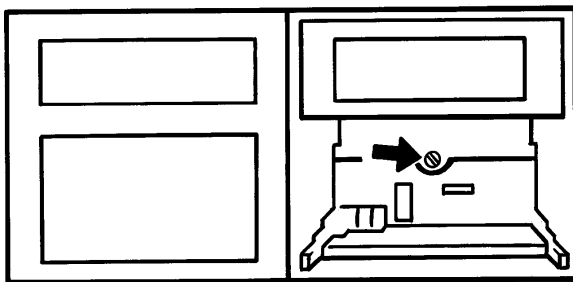

Figure 1 Option key and jacking bolt locations
2. Isolate the recorder from line power, then unscrew the jacking bolt (arrowed in figure 1) and carefully slide the chassis forwards, ensuring that the flexi cable at the rear of the writing system is not forcibly pulled out of its connector.